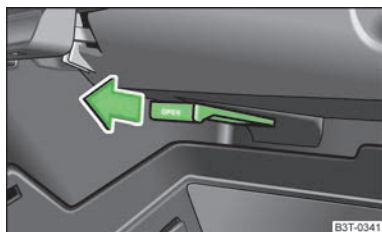

Fig. 88
- Open the air supply by pulling the lever in the direction of the arrow » Fig. 88.